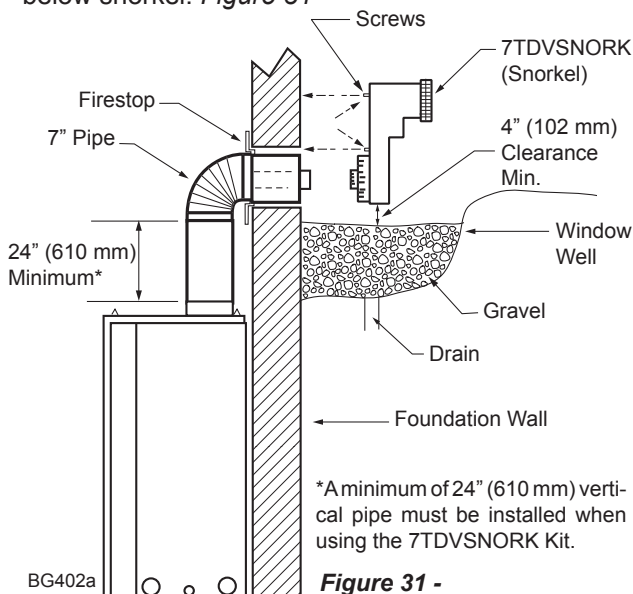

Figure 31 - Below Grade Installation
2. Remove soil to a depth of approximately 16" (406 mm) below base of snorkel. Install drain pipe. Install window well (not supplied). Refill hole with 12" (305 mm) of coarse gravel leaving a clearance of approximately 4" (102 mm) below snorkel. *Figure 31*
7. Level the soil so as to maintain a 4" (102 mm) clearance below snorkel. *Figure 31*